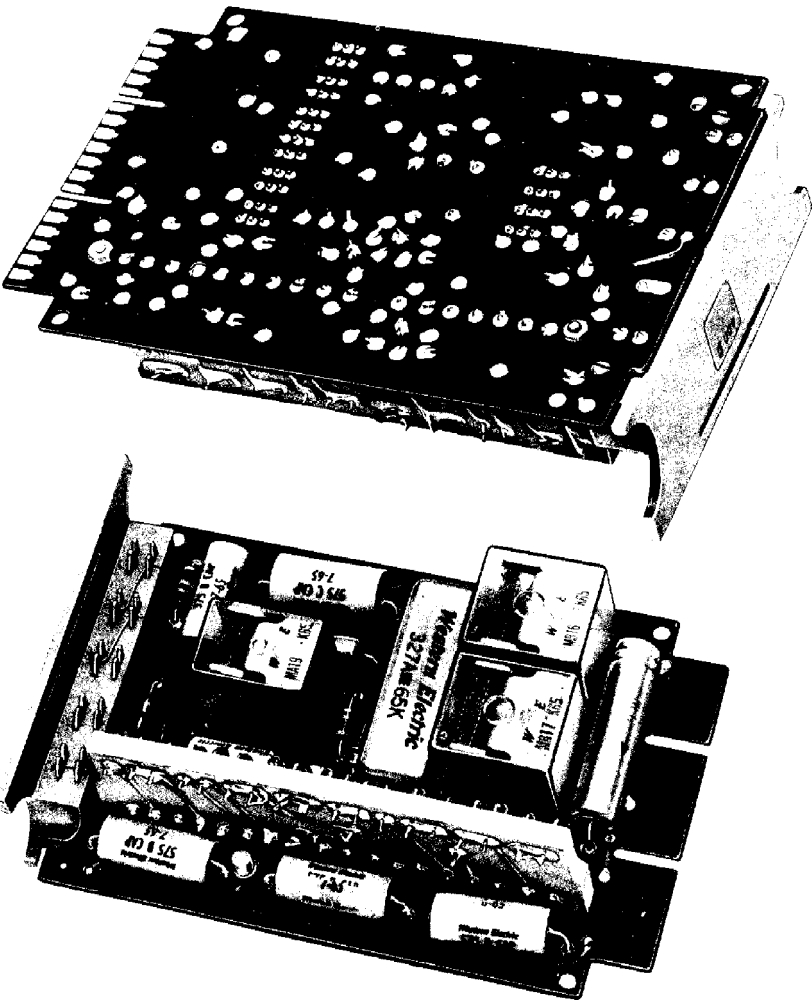

FIGURE 1. 400D Key Telephone Unit
- 2.01 The Western Electric 400D KTU is an 18 contact plug-in type unit with the circuit components mounted on an epoxy-coated metal board interconnected by printed circuitry on both sides. The plug end of the unit has two slots to locate and properly seat into the mounting receptacle of a 501, 502, 550 and 551 type key service unit, or 583 and 584 type panel, or a 259 type KTU. See Figure 1.
4.01 The printed circuit wiring extends to the contacts of the KTU which are on one side of the circuit board along the plug end (see Figure 1). See Table C for lead designations.